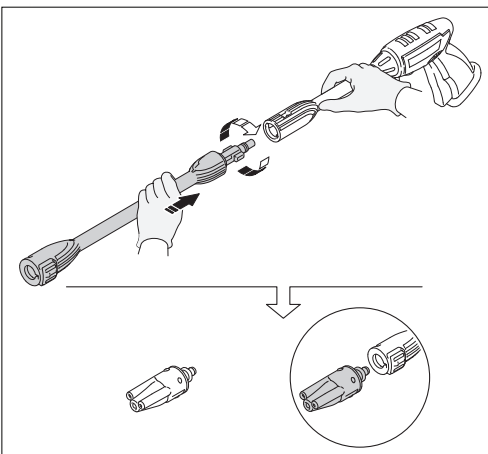

Fig. 7
- While the spray gun is in the locked position, insert the lance into the the spray gun by inserting, pushing together and turning clockwise simultaneously (Fig. 7). To remove push together and turn counter clockwise. Push the safety lock button to lock the trigger when changing the lances to ensure that they do not accidentally eject with force during removal.